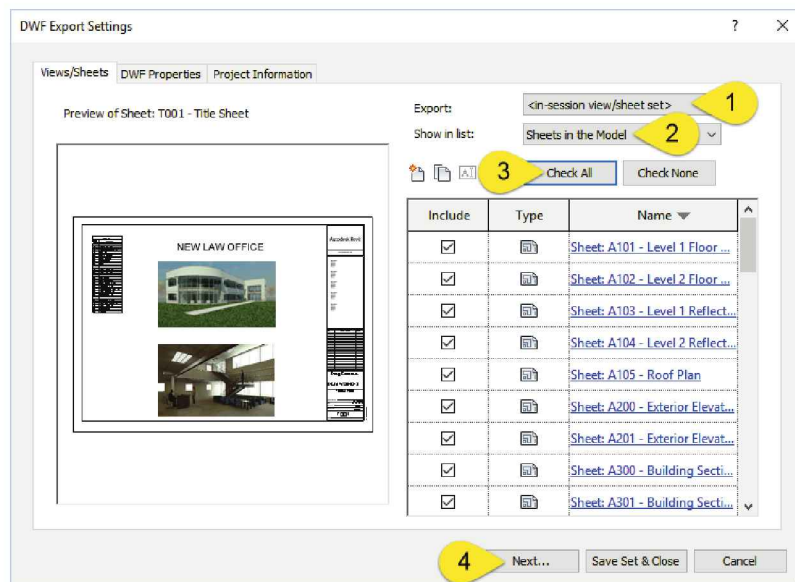

FIGURE 16-3.4 3D DWF export options
13. Do the following on the *Views/Sheets* tab (Figure 16-3.4):